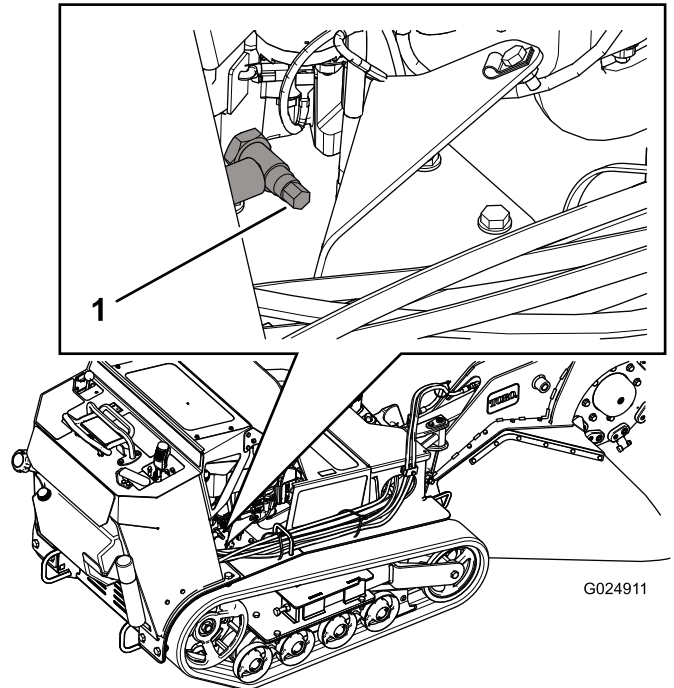
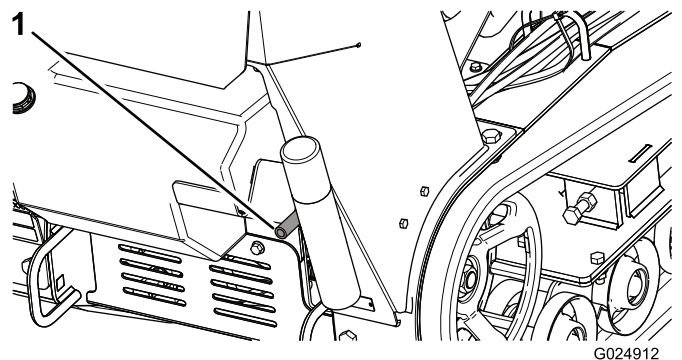

Figure 32
Figure 33
4. Place a pan below the drain hose. Rotate the oil drain valve to allow oil to drain (Figure 32 and Figure 33).